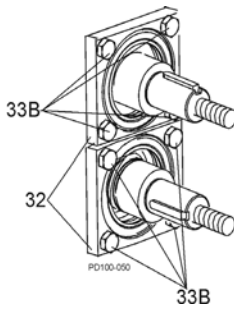

Figure 40 - Remove Bearing Retainers
- Remove the front bearing retainer screws (Figure 40, item 33B) and pull off the bearing retainers (item 32). (If a retainer is stuck, leave it in place; it will press out when the shaft is removed.)